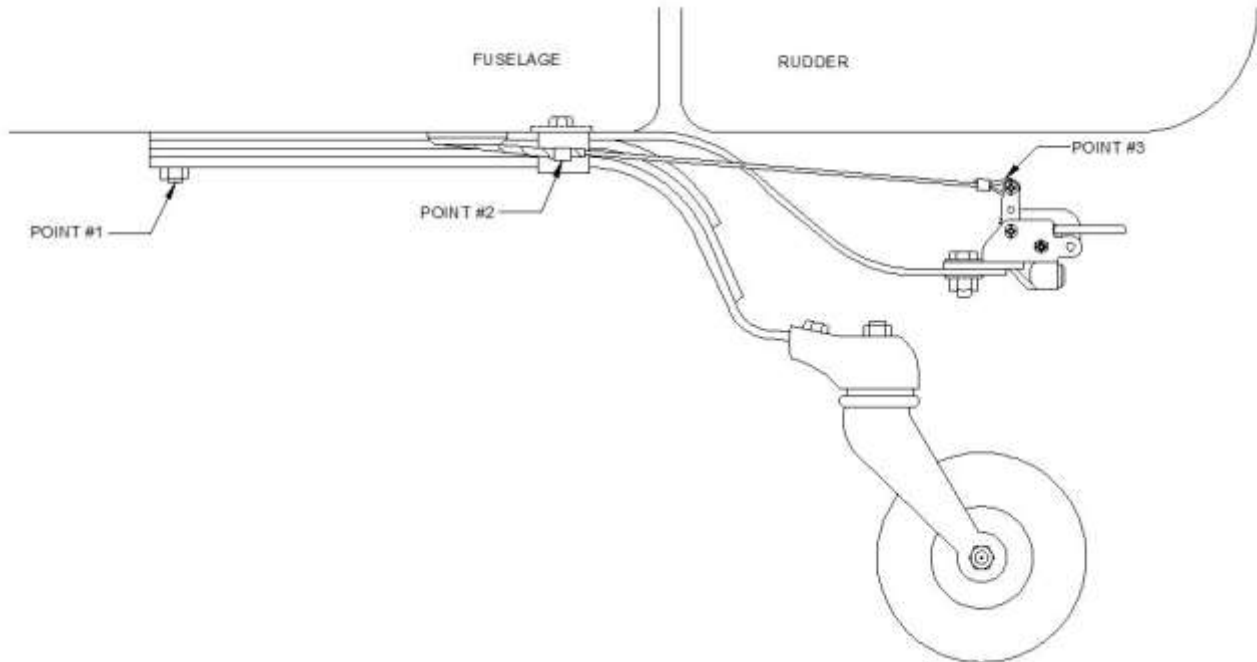

Figure 4.5: Tow Hook Installation on Piper Models J-3, J-4, J-5, PA-11, PA-12, PA-18, PA-18A, and PA-25.
- (1) Piper Models J-3, J-4, J-5, PA-11, PA-12, PA-18, PA-18A, and PA-25. Refer to Figure 4.5 for clarification.